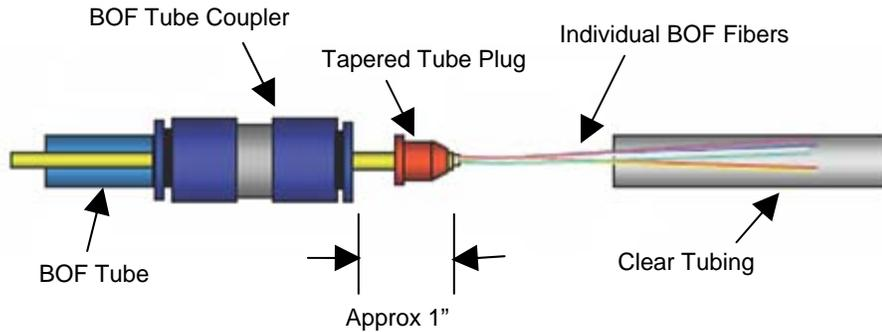

Figure 4
a. Place the provided tapered tube plug around the exposed bundle jacket approximately 19mm (0.75 inch) from the BOF tube coupler (Figure 4).